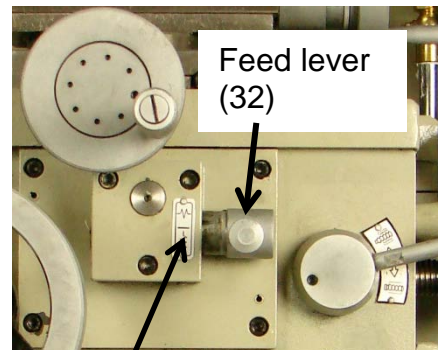

figure 33
The Feed lever (32) is used to select between the longitudinal and cross slide powered motions. (Fig. 33) shows the handle in the pulled out neutral position. Pull up on the pivot handle to engage the longitudinal motion. To get to the cross slide position from neutral, push in and lower the handle.